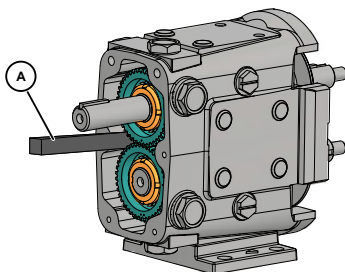

Figure 61 - Block Shaft Rotation
4. Use a wood or nylon block (Figure 61, item A) to keep the shafts from turning. If a block is not available, use rags to block the gears, or with one rotor on the shaft, block the rotor with a nylon dowel.